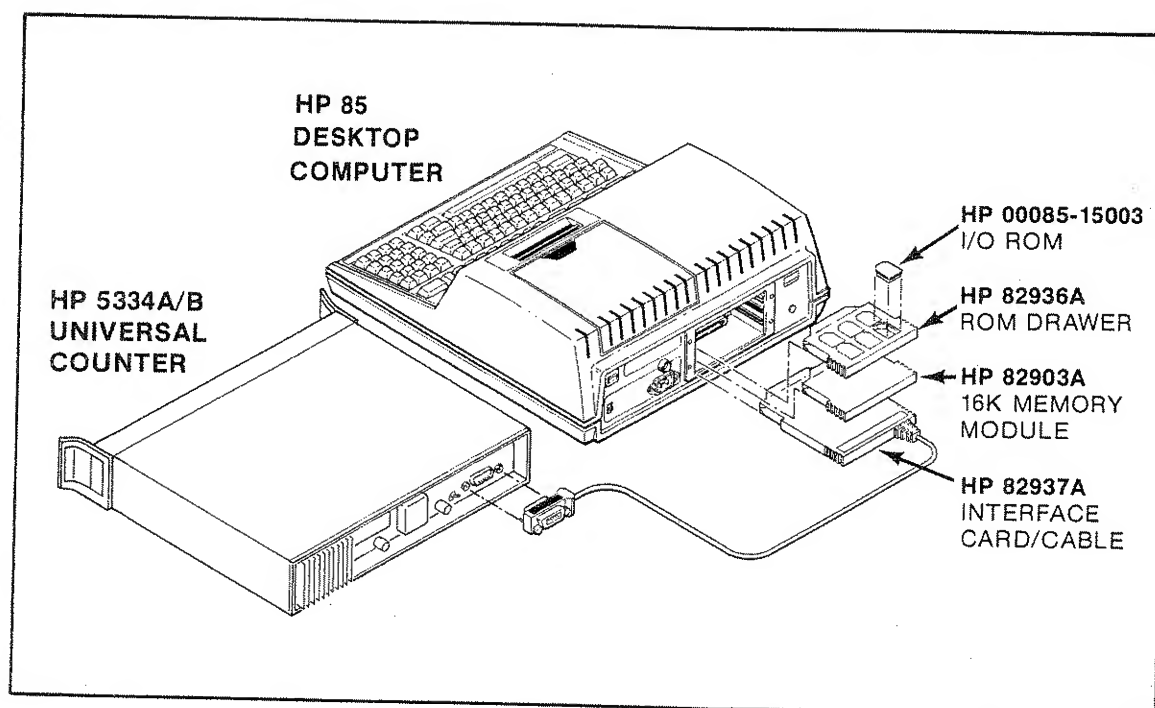

Figure 4-17. HP-IB Verification Test Setup
1. Connect the equipment as shown in *Figure 4-17*.